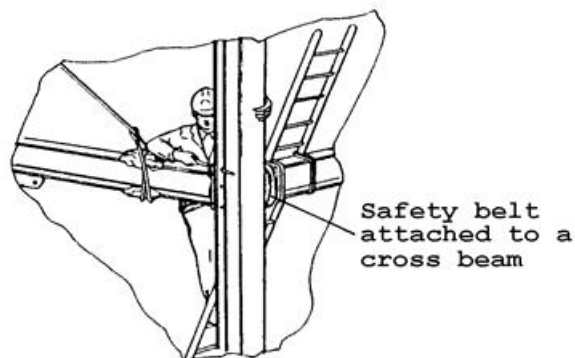

FIG 32.
- Attach the safety harness to a convenient part of the structure before attempting any further work on the construction. (Fig 32)